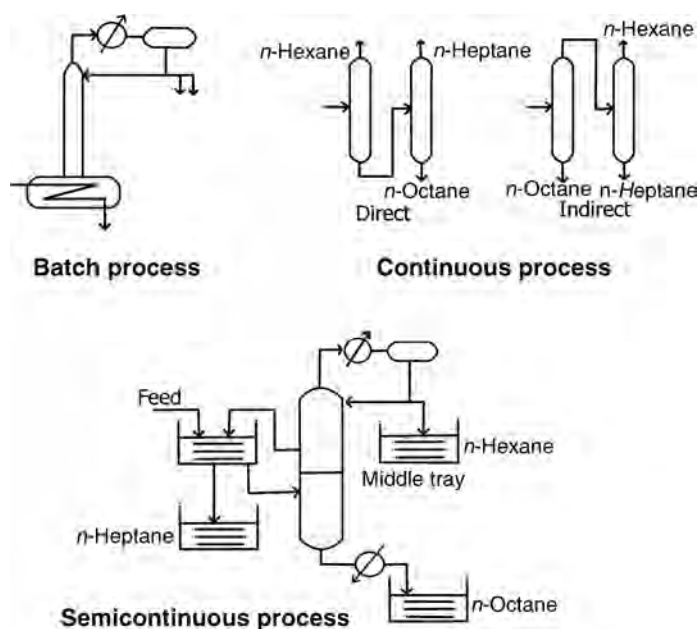

FIGURE 17.23 Batch, continuous, and semicontinuous processes for separation of *n*-hexane, *n*-heptane, and *n*-octane mixtures.
- Figure 17.23 illustrate batch, continuous, and semicontinuous process schemes.